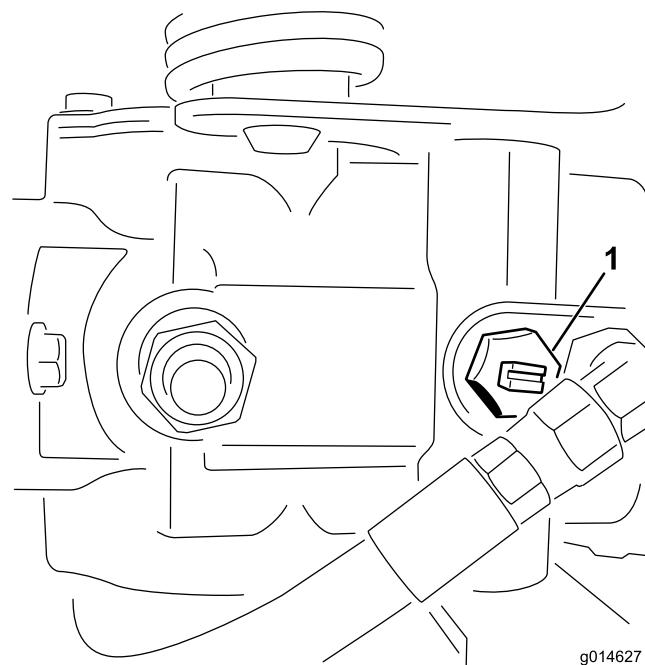

Figure 41
1. Locate the bypass valve on the pump and rotate it so that the slot is vertical (Figure 41).
2. Before starting the engine, close the bypass valve by rotating it so that the slot is horizontal (Figure 41). Do not start the engine when the valve is open.